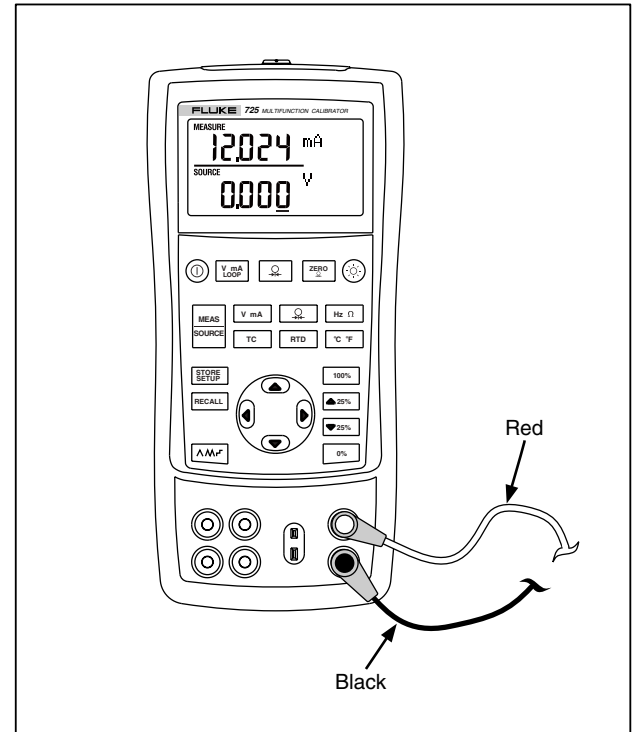

Figure 7. Measuring Voltage and Current Output
2. Connect the leads as shown in Figure 7.